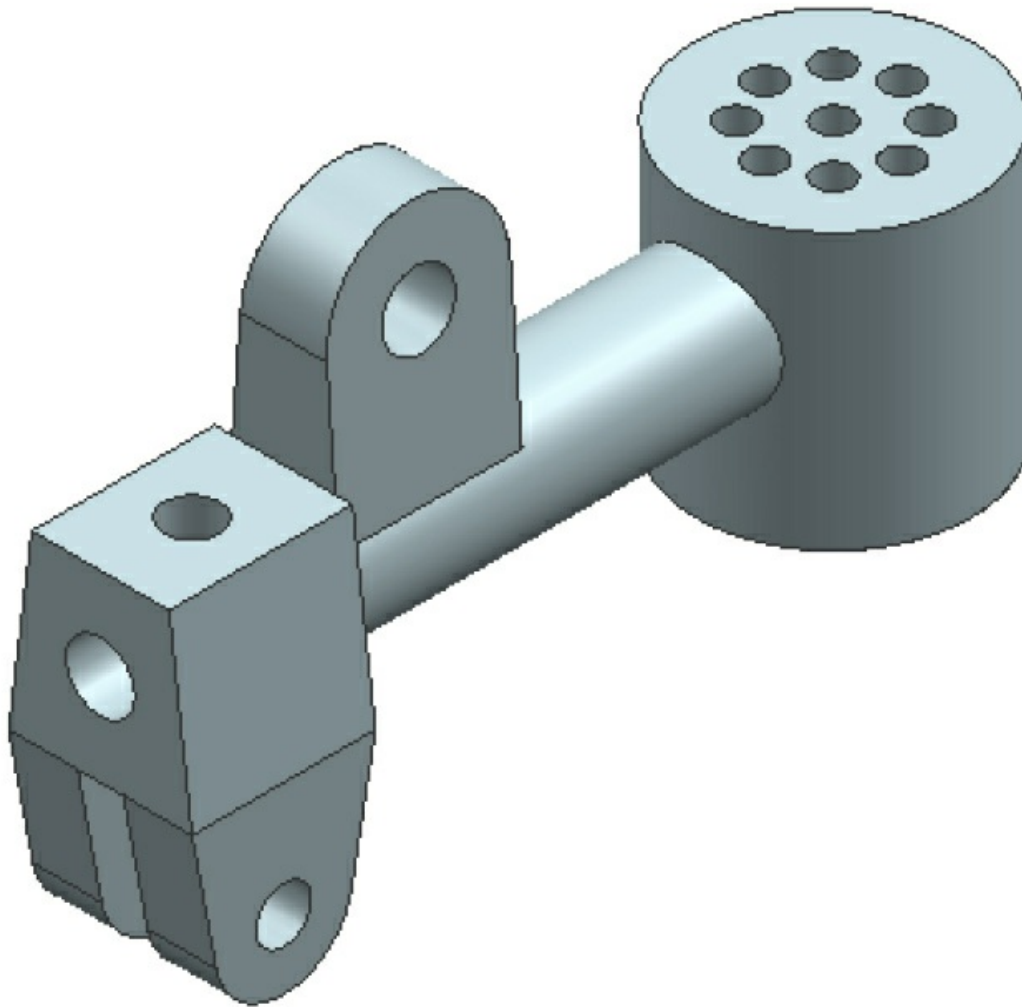

Figure 13-132 The resultant model
5. Enter **45** in the **Pitch Angle** edit box and **4** in the **Count** edit box of the **Angular Direction** sub-rollout in the **Pattern Definition** rollout. Press ENTER; the preview of the resultant model is displayed in the graphics window. Next, choose the **OK** button to accept the changes. The resultant model is shown in Figure 13-132.